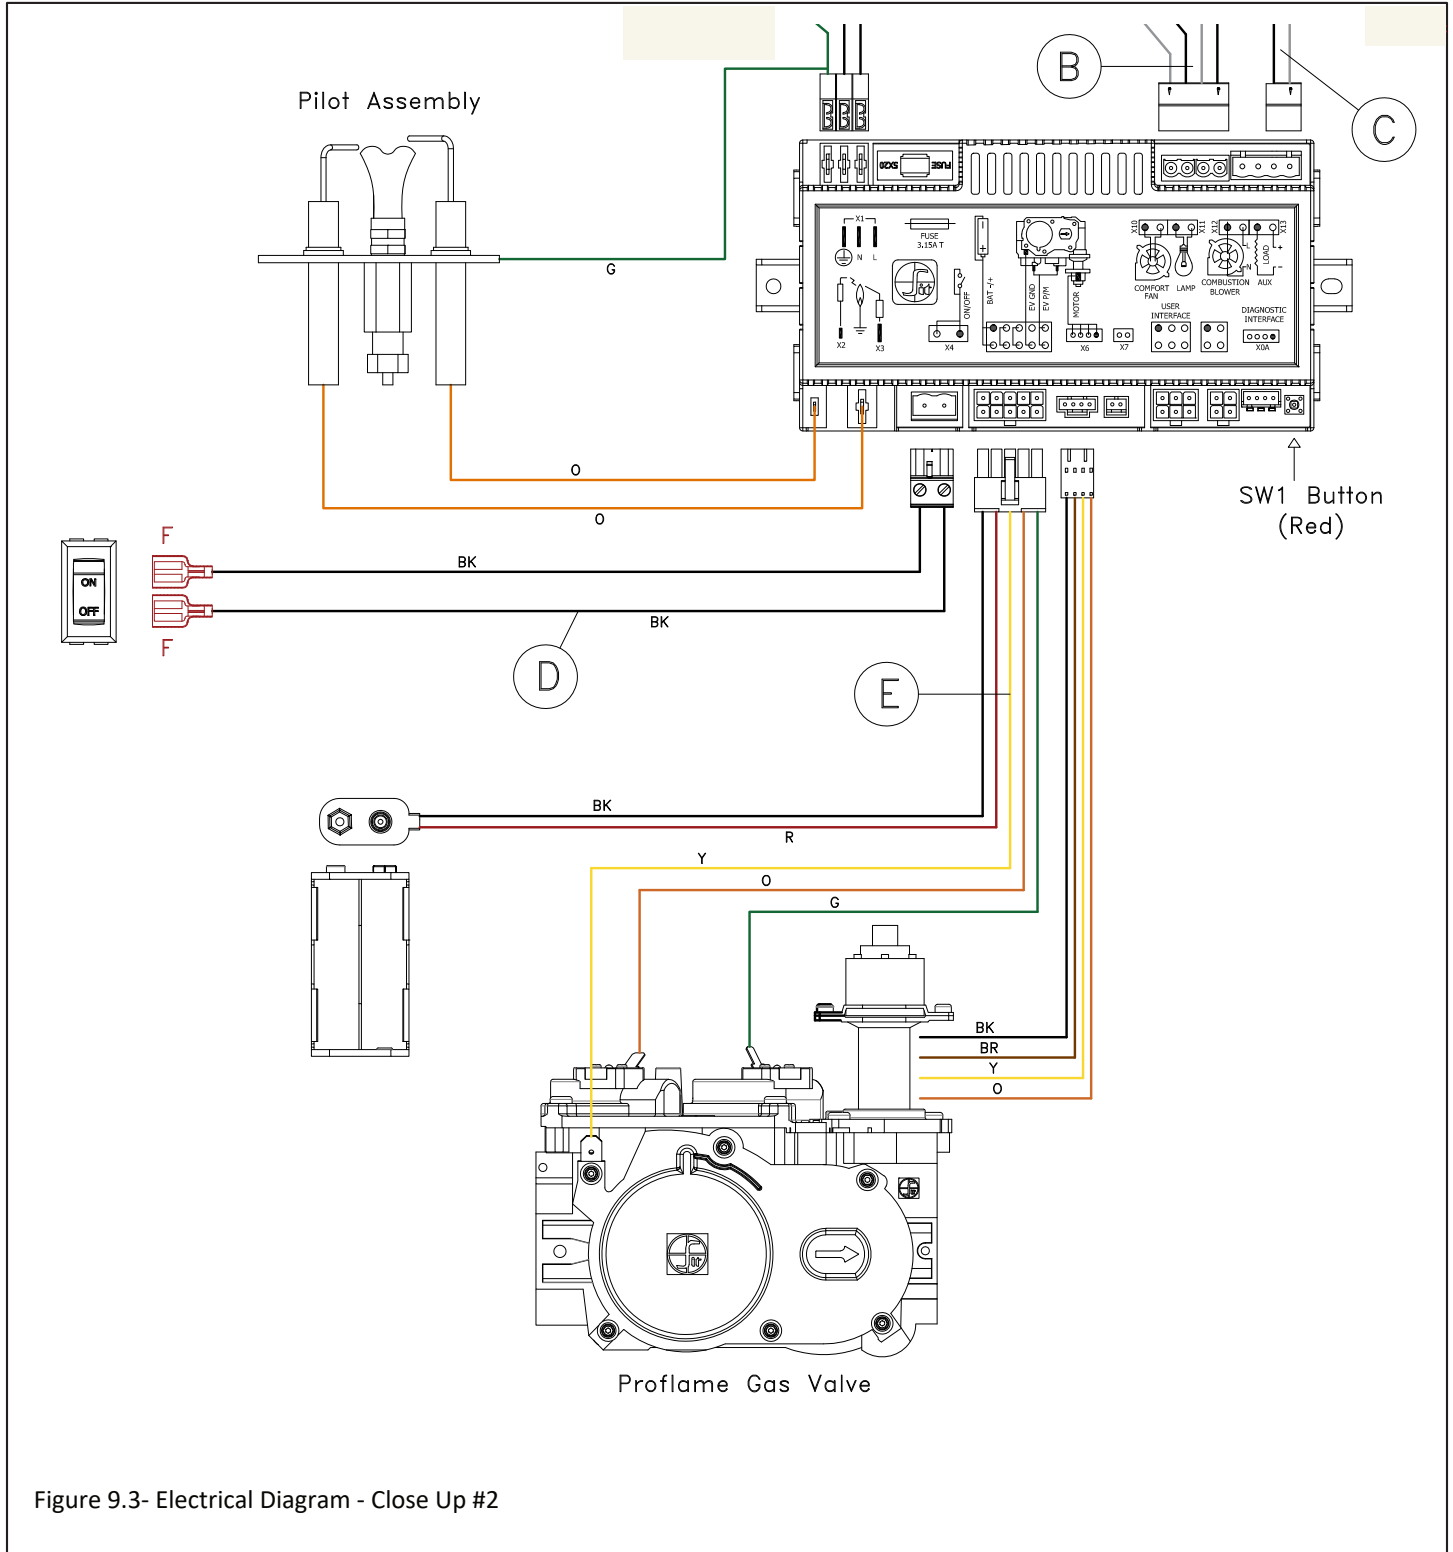

Figure 9.3- Electrical Diagram - Close Up #2
- Figure 9.3 shows a close up of the wiring diagram. This figure shows the pilot assembly, on / off rocker switch, battery backup, gas valve, and SW1 Remote Learn Button.